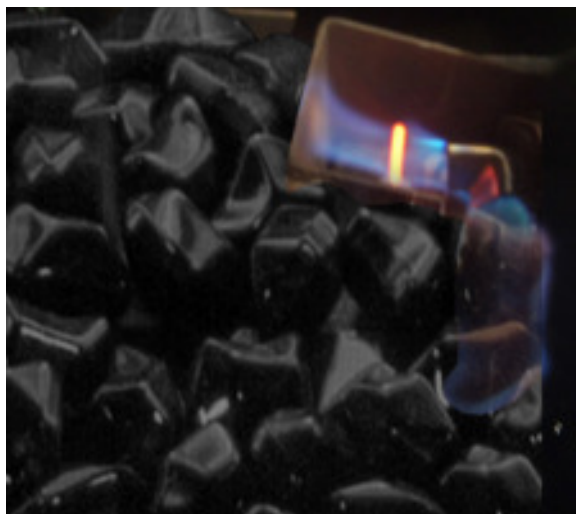

Figure 14. Pilot assembly beside the burner.
8. Reinstall the burner tray, tray and glass media, and glass door. Also refer to SECONDARY INSTALLATION - GLASS MEDIA INSTALLATION in your Owner's Manual. When re-installing the burner tray, ensure that the burner to pilot shield relationship is similar to what is shown in Figure 14.